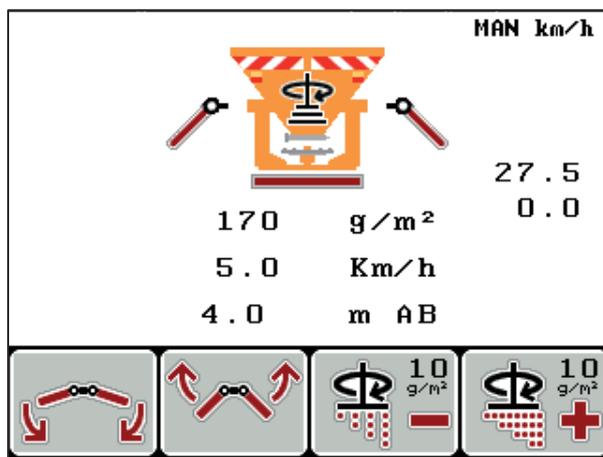

Figure 5.7: Symmetrical spreading pattern
3. Press the **L/R** key until both sides can be adjusted simultaneously (see Figure 5.7)
The symmetrical spreading pattern is active as soon as both sides can be adjusted simultaneously (refer to Figure 5.7) and the actuators are set to one of the limit stops (bottom or top).